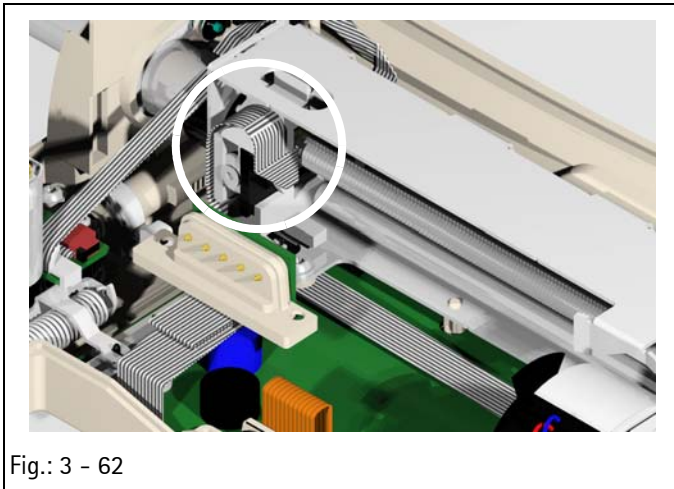

Fig.: 3 - 62
2. Fold the ribbon cable once through 90° upwards, see Fig.: 3 - 62, before mounting the fastening angle.